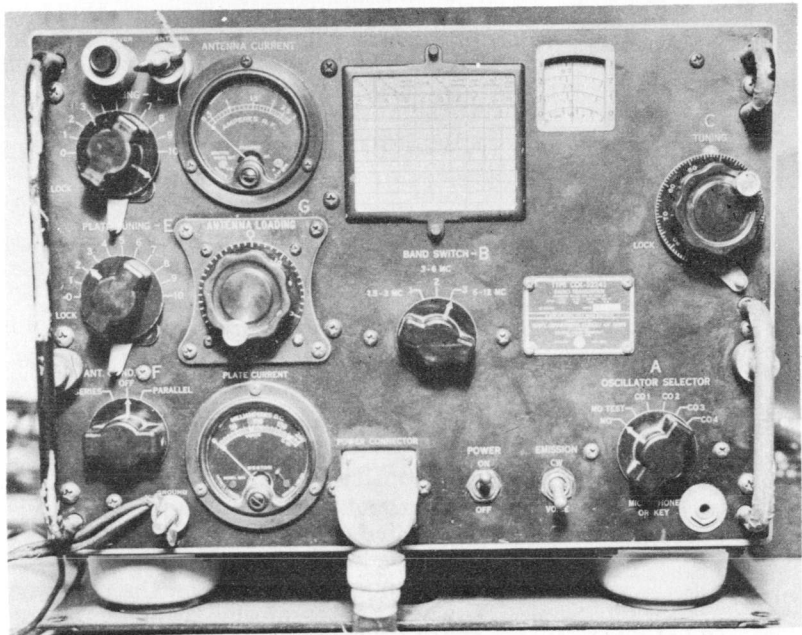

Figure 34.—Transmitter Unit, front panel, AN/MRC-6.
40. **Transmitter Section.**—The controls of the transmitter are shown in Figure 34; their functions are shown in the following chart: